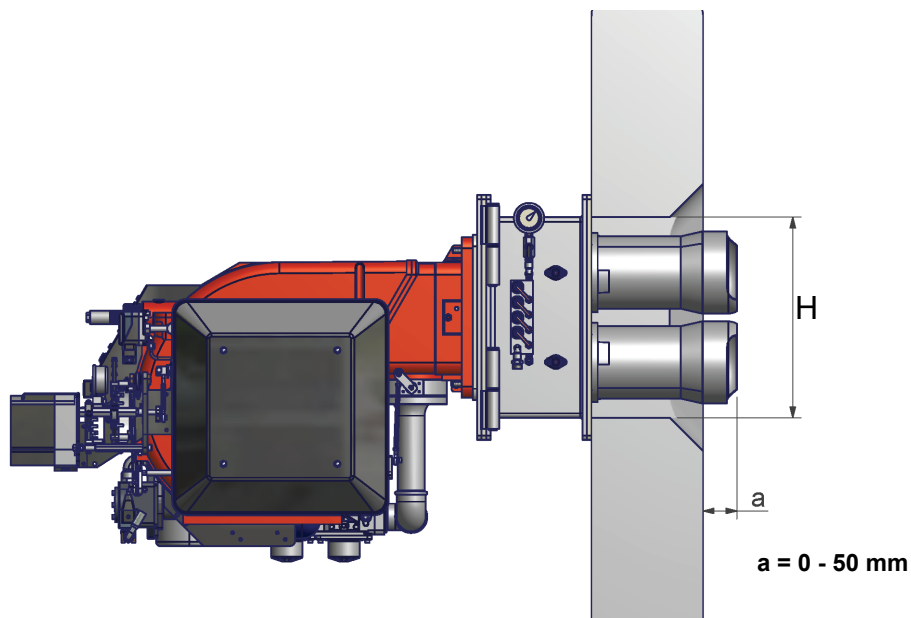

Fig. 1
- 4 fix the burner to the stud bolt, by means of the fixing nuts, according to Fig. 1.